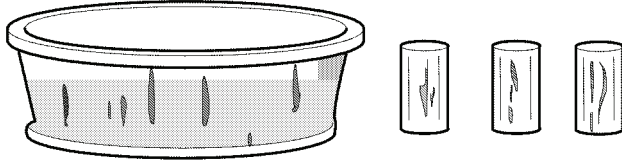

Figure 8.
- (4) Etching or pitting on functioning surface. Refer to Figure 8